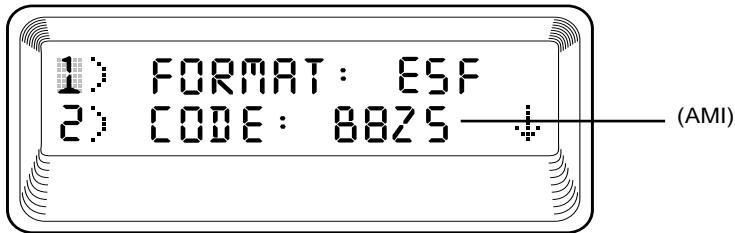

Figure 4-3
The unit displays the first two Network (NI) submenu items (see Figure 4-3).